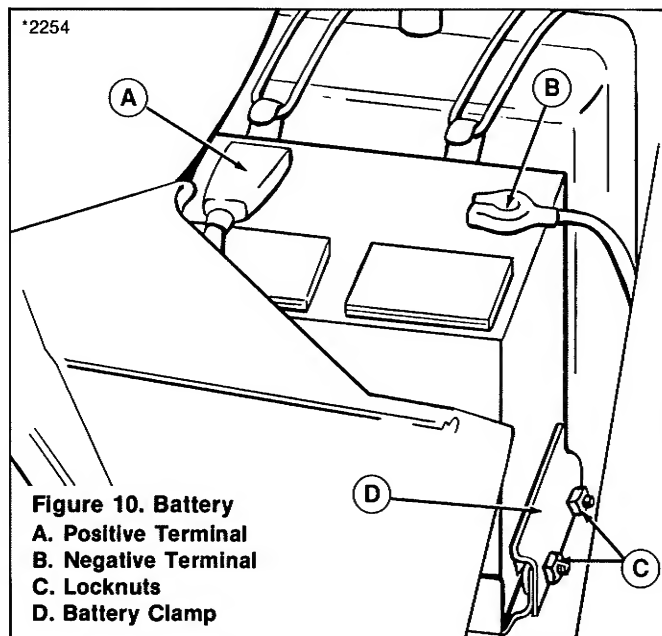

Figure 10. Battery
1. Open engine compartment to locate battery (figure 10). Remove the protective cover from the positive terminal and disconnect the cables from the battery, negative cable first. A positive "+" sign is stamped on the battery next to the positive terminal.
2. Loosen the battery clamps (D, figure 10) by loosening both locknuts (C). Remove the battery.